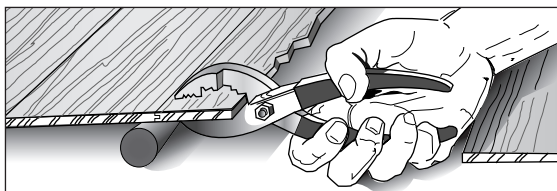

Fig. 47
5. Using a pry bar, lift floor and place 1/2" (12.7 mm) dowel or pipe under factory joint (Fig. 47). Using pliers or available laminate floor repair tools, remove middle piece of long joint first, then work into the corners with end pieces removed last (Fig. 47).